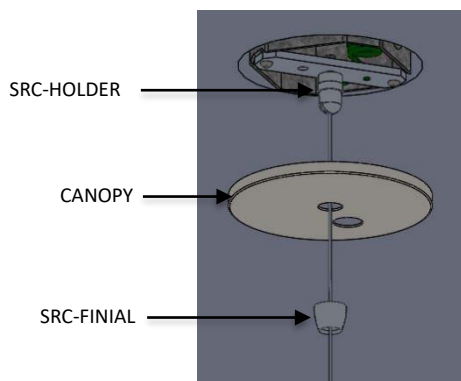

FIG. 21 – CANOPY DIS-ASSEMBLY
21. Once the TWIN BODY is secured to the AIRCRAFT CABLE (5) at the GRIPLOCK (5) Unthread the FINIAL from the MOUNTING BRACKET ASSEMBLY and lower the CANOPY as shown below in FIG. 21.